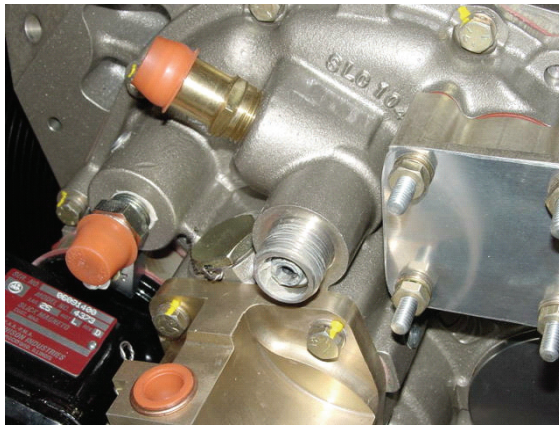

Figure 8-13 Tachometer Drive Output
1. Remove the cap from the tachometer drive output (Figure 8-13) from the back of the engine.